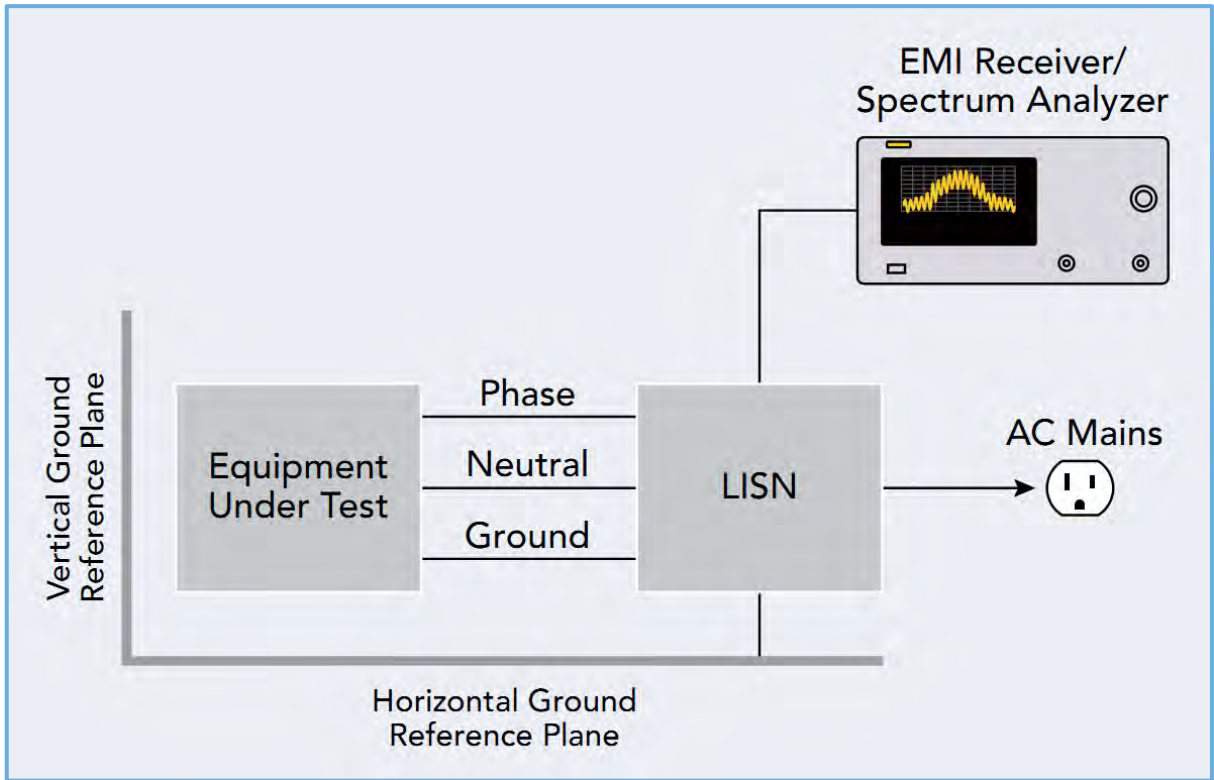

Figure 7-6: Electrical connections for conducted EMC testing.
**Figures 7-6** and **7-7** show the standard suggested electrical and physical setups for testing conducted